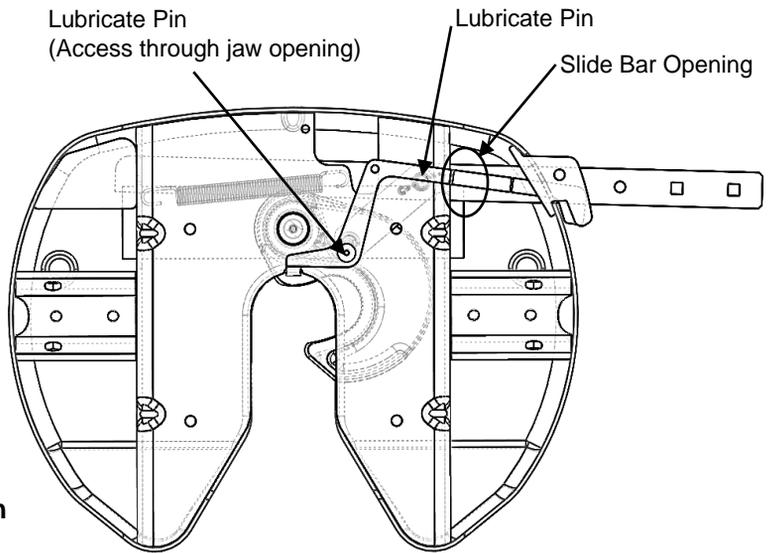

Figure 3: Pin/Lubrication Points (Bottom View)
2. Lubricate pins (2) and slide bar opening as shown in Figure 3 with lithium grease prior to installation/operation.